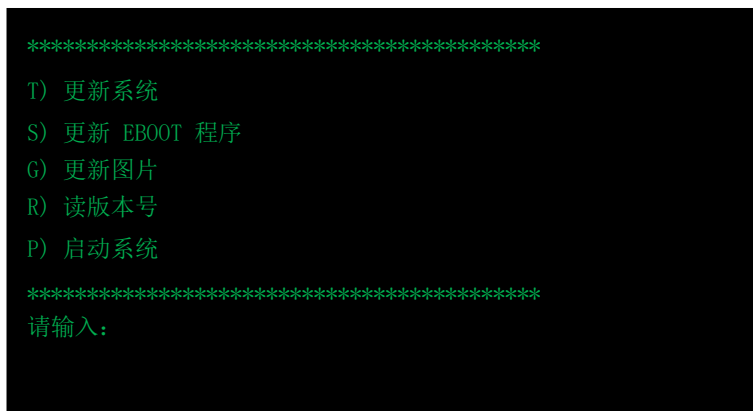

Figure 8-1 System update interface
Press and hold <M> while turning on the NK280B to enter the system update interface, as shown in figure 8-1.
2. Press and hold the <M> while starting the NK280B to enter the system update interface shown in figure 8-1.